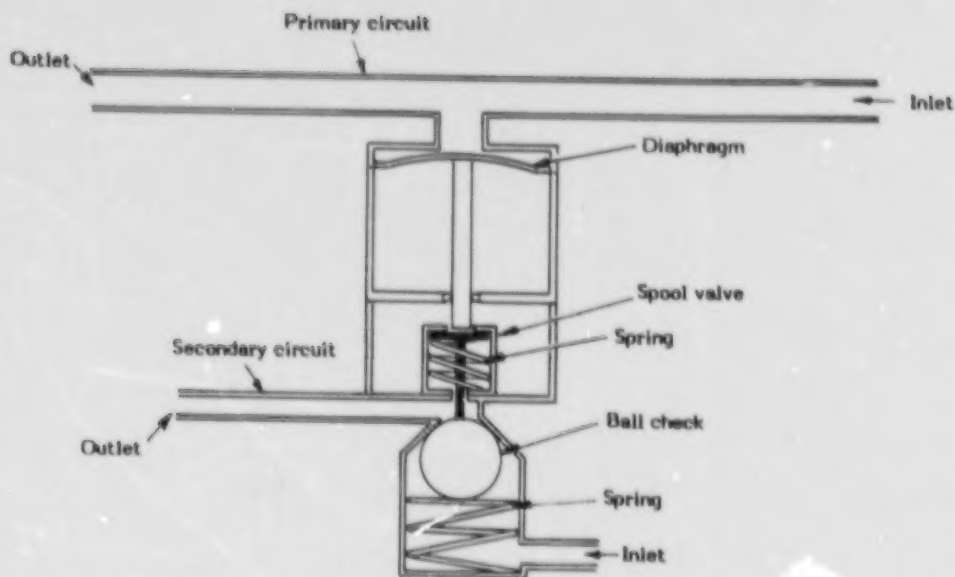
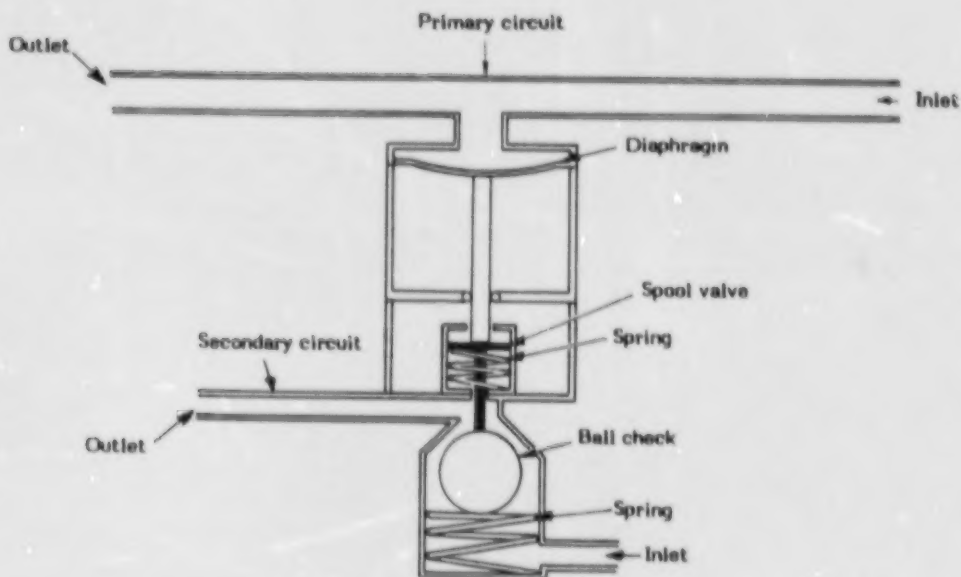

Fig. 6. Primary circuit has not overcome pressure on the diaphragm, and valve remains closed.
Fig. 7. Primary circuit has overcome diaphragm pressure, and valve is opened.
Pressure sequence valves are used to direct air from one branch of a circuit to another branch after the needs of the first branch are filled. They operate much like a relief valve. Figure 6 shows a sequence valve closed. At this point, the system is producing only enough air for the primary circuit. Figure 7 shows a sequence valve open and supplying air to both the primary and secondary circuits. When the pressure in the primary circuit reaches a preset point, pressure from the primary circuit forces the diaphragm downward. The downward movement of the diaphragm pushes the rod downward on the spool valve. As the spool valve moves downward, it lifts the ball check from its seat, allowing air to flow through the secondary circuit. The valve will remain in the open position as long as the system provides more air than that required by the primary circuit.
11. Why is the sequence valve in figure 6 closed?
12. Trace the force that moves the ball check from its seat in figure 7.